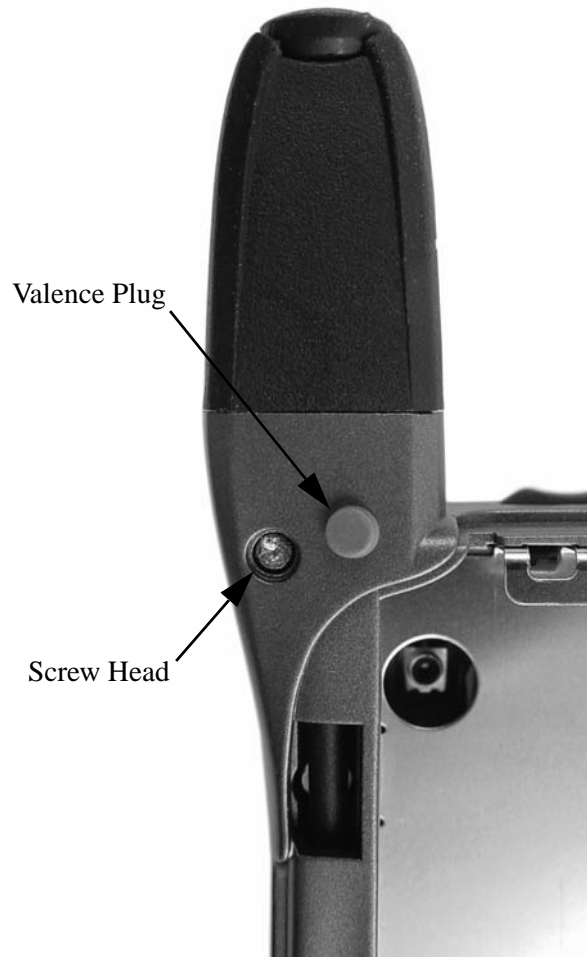

Figure 7-3.
1. Remove valence plug at base of antenna to expose T4 screw head. Discard the valence plug. (see Figure 7-3).